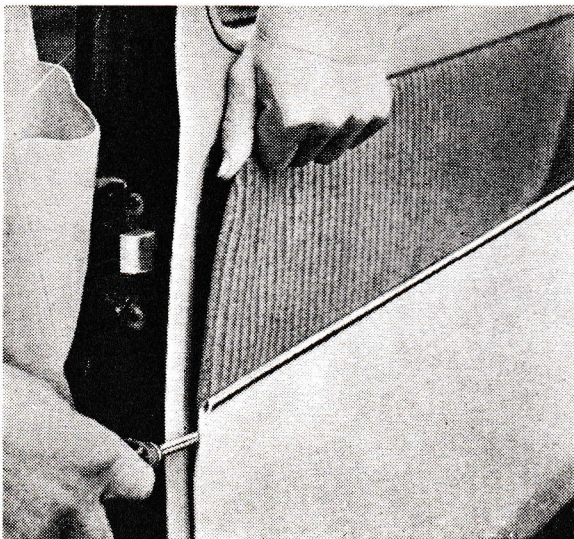

Fig. 17. Removing the door upholstery.
2. Remove the door upholstery by inserting a screw-driver under the edge and bending outwards until it loosens. This is shown in Fig. 17.
2. Remove the door upholstery. Use a screwdriver which is inserted under the cloth and then bent outwards as shown in Fig. 17.
3. Remove the door upholstery. Use a screwdriver which is inserted under the upholstery and bent outwards as shown in Fig. 17.